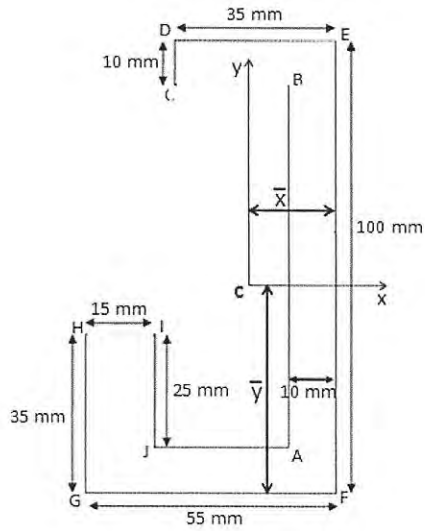

Figure Q4(b)
- (b) The cross section of a wing's stringer shown in **Figure Q4(b)** is subjected to a bending moment of 1500 Nm and -1000 Nm acting in the vertical and horizontal planes, respectively.